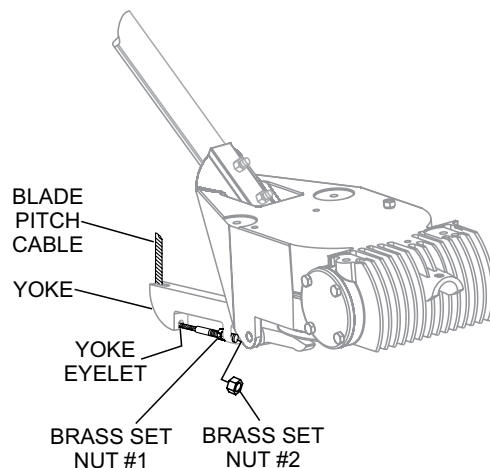

Figure 7. Pitch Cable Yoke Attachment
4. Insert the cable end through the yoke eyelet (Figure 7). Tighten brass set nut #1 by hand to remove all the slack from the cable.